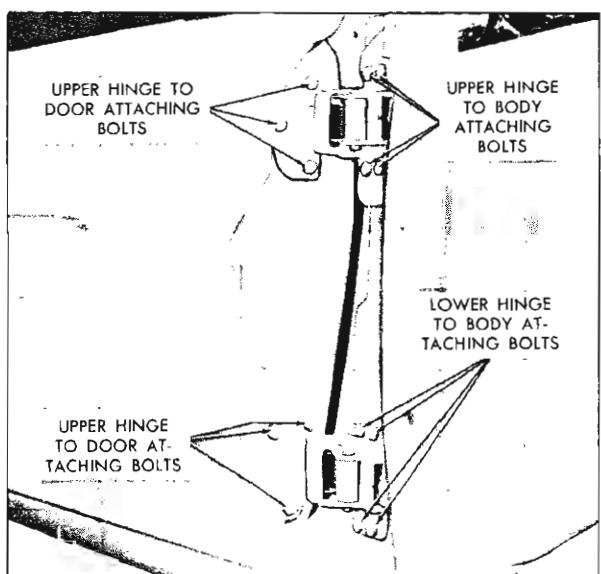

Fig. 3-17 Front Door Hinge Attachment
5. With door properly supported, remove bolts securing upper and lower hinges to front body hinge pillar or door hinge pillar. Then with aid of helper, remove door assembly from body (Fig. 3-17).
1. For in and out or up and down adjustments, loosen hinge to door pillar attaching bolts (see Fig. 3-17). Adjust door as required and tighten bolts.
2. To adjust rear fore and aft, loosen hinge to body pillar attaching bolts (see Fig. 3-17). Adjust door as required and tighten bolts.